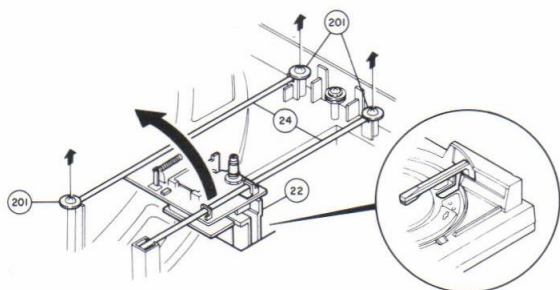

Fig. 6
3. Remove the three Screws (201) securing the Rail (24), remove the rail, then move the Bracket Ass'y (17) until the Tonearm (22) is lined up with the cut-off section of the opening in the Cabinet (1) and lift it. (Figure 6)